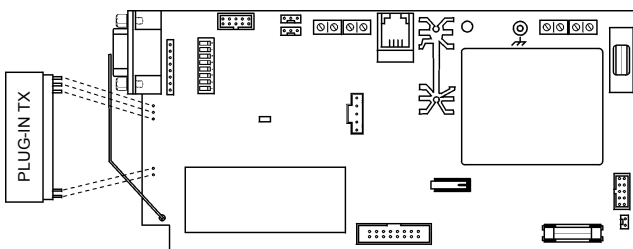

Figure 3: Plugging in the On-Board Transmitter
5. To support the infinite-WSM, the infinite's main board must have the plug-in transmitter installed. Plug the on-board transmitter into the infinite control panel's main board as shown in Figure 3.